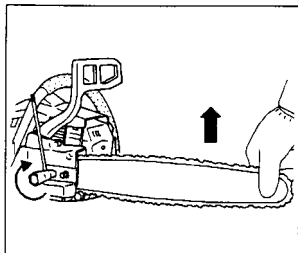

Fig. 1-4
- **PROPER TENSION IS EXTREMELY IMPORTANT!** (Fig. 1-4, 5)
6. Raise the bar end and securely tighten the chain bar clamp nuts with the box wrench. (Fig. 1-4)